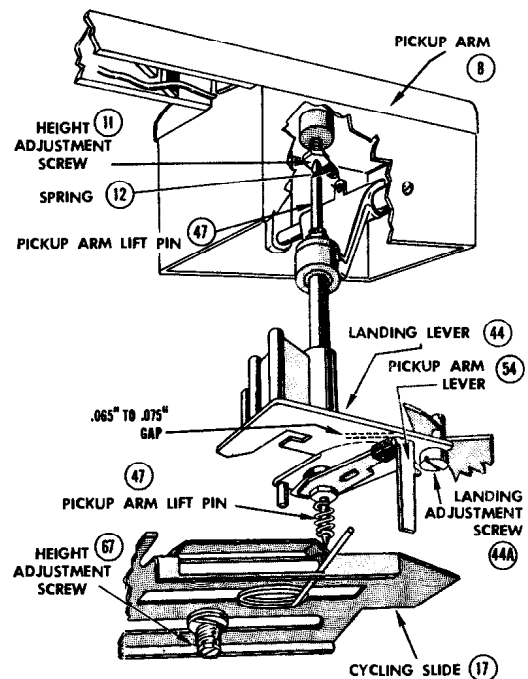

Figure 6—Adjustments
Continuous trip may be caused by failure of the clutch lever (56) to re-set. Check for oil or loose assembly. If stylus skips grooves or fails to become free at the time of "touchdown" check action of index lever (112) and check for proper clearance between landing lever (44) and pickup arm lever (54). See Figure 6.